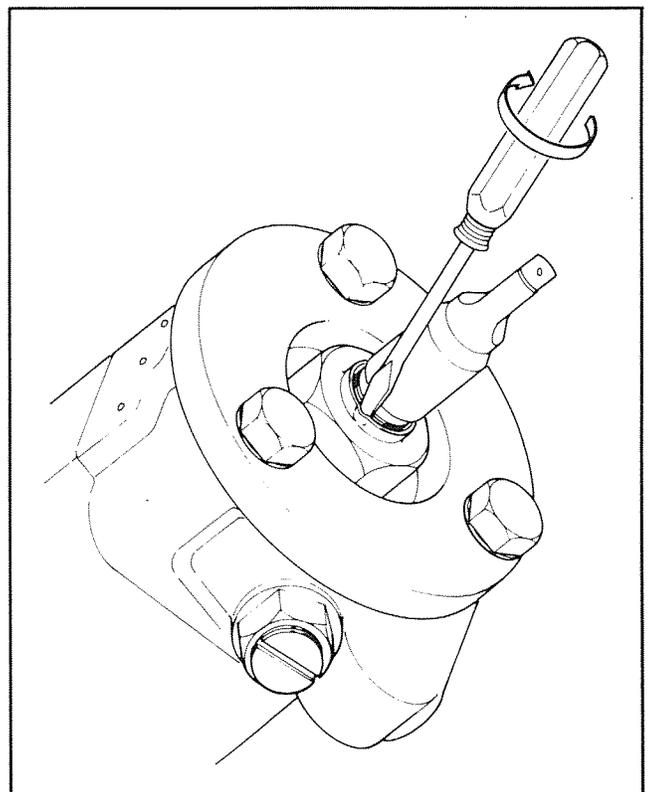

Figure 32
6. Straighten the washer tab with a screwdriver and remove the nut, Figure 32.